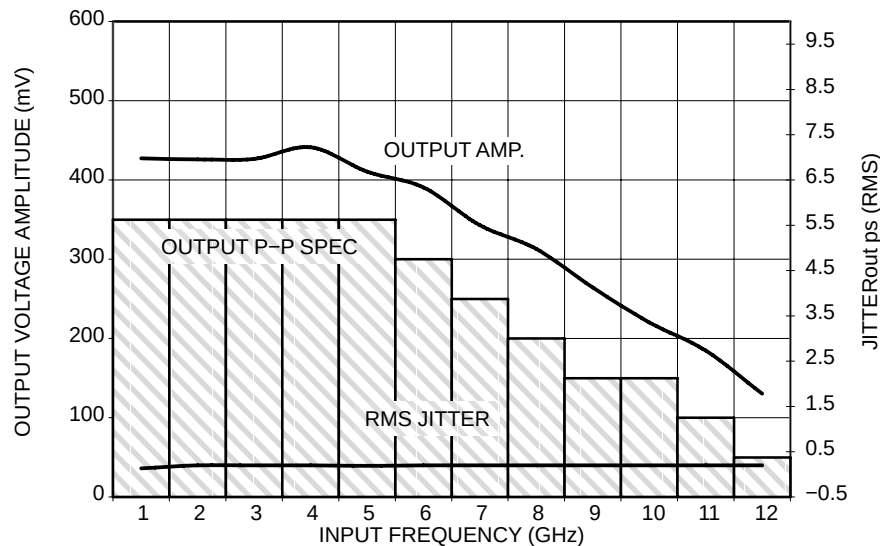

Figure 4. Output Voltage Amplitude (V_{OUTPP}) / RMS Jitter vs. Input Frequency (f_{in}) at Ambient Temperature (Typical)
22. Measured using a 500 mV source, 50% duty cycle clock source. All loading with $50\ \Omega$ to $V_{CC} - 2.0\text{ V}$. For minimum $f_{\max}$ value of 10.709 GHz, output amplitude is approximately 200 mV (as shown in Figure 4, where output P-P spec is shown as a minimum/guarantee of around 150 mV). Input edge rates 40 ps (20% – 80%).
27. Measured using a 500 mV source, 50% duty cycle clock source. All loading with $50\ \Omega$ to $V_{CC}-2.0\text{ V}$. For minimum $f_{\max}$ value of 10.5 GHz, output amplitude is approximately 200 mV (as shown in Figure 4, where output P-P spec is shown as a minimum/guarantee of around 150 mV). Input edge rates 40 ps (20% – 80%).